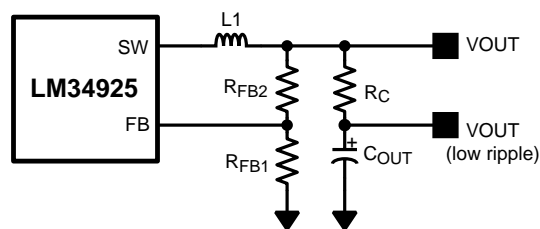

Figure 9. Low Ripple Output Configuration
This regulator regulates the output voltage based on ripple voltage at the feedback input, requiring a minimum amount of ESR for the output capacitor (C_{OUT}). A minimum of 250 mV of ripple voltage at the feedback pin (FB) is required for the LM34925 device. In cases where the capacitor ESR is too small, additional series resistance may be required (R_C in Figure 9).
For applications where lower output voltage ripple is required, the output can be taken directly from a low ESR output capacitor, as shown in Figure 9. However, R_C slightly degrades the load regulation.